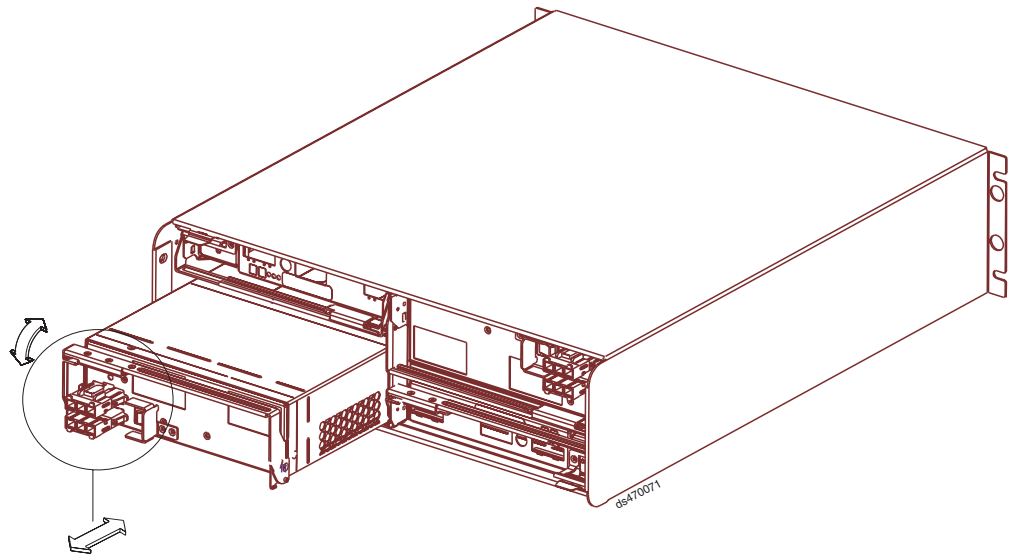

Figure 20. Removing a dc power supply and fan unit
2. Slowly pull the lever away from the chassis to remove the dc power supply and fan unit, as shown in Figure 20 on page 39.